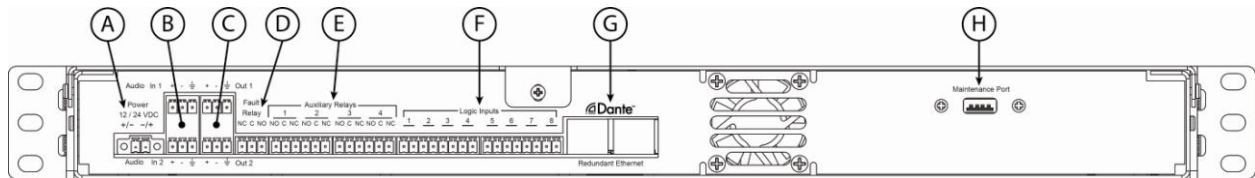

Figure 2-3: 5400ACS Rear Connections
The connections on the rear of the 5400ACS are shown in Figure 2-3 and are described in the text which follows.
- Attach any auxiliary audio connections to the Aux Input/Output connections on the back (items B and C in Figure 2-3)
- Connect Fault Relay (item D in Figure 2-3) either the NC or NO side to external system or other indicating equipment
- Connect Aux Relay (item E in Figure 2-3) to any external system or other indicating equipment for this installation